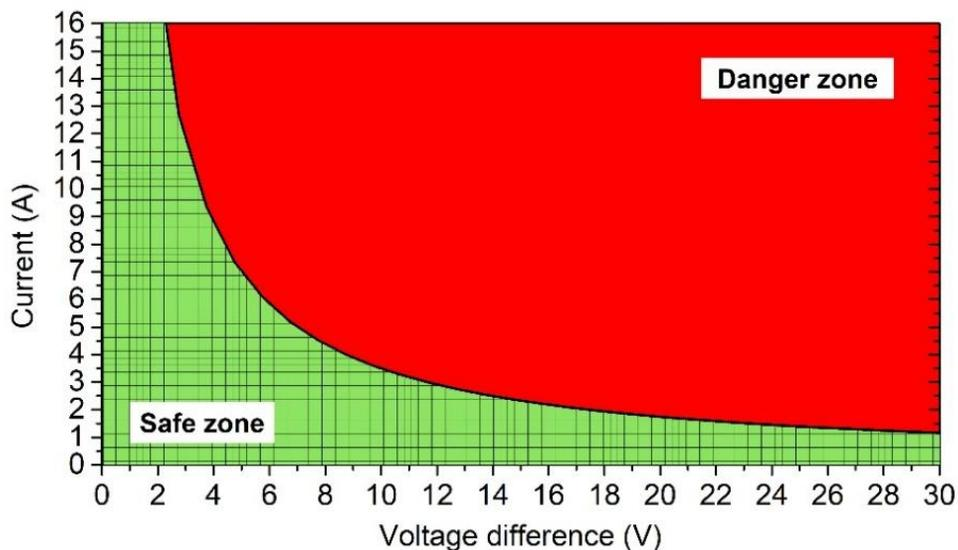

Figure 3: Safe Operating Zone - Current vs. Voltage Difference
- **Fan Cooling:** Fan cooling with a standard heatsink is typically sufficient as long as the operating point remains within the "Safe Zone" shown in Figure 3.